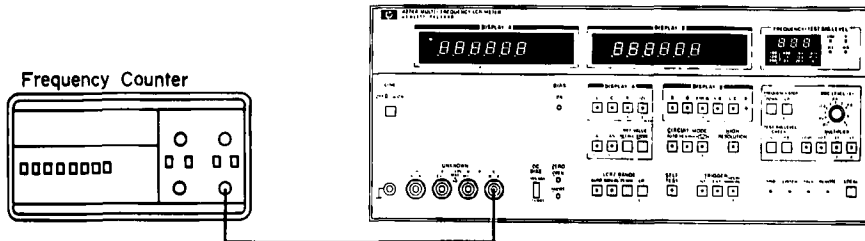

Figure 4-1. Test Frequency Accuracy Test Setup.
1. Connect BNC to BNC cable to 4274A UNKNOWN H CUR terminal and to frequency counter input as shown in Figure 4-1.